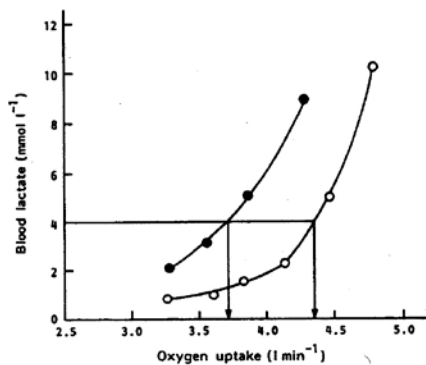

Figure 2. Interpolation of onset of blood lactate accumulation (OBLA) from blood lactate data before (O-O) and after (●-●)
7. A capillary sample of blood is taken (SS024) during the last 15s seconds of each stage of the test to determine the blood lactic acid concentration using a dry (Lactate Pro™) or wet (Analox GM7) lactate analyser (Figure 2).